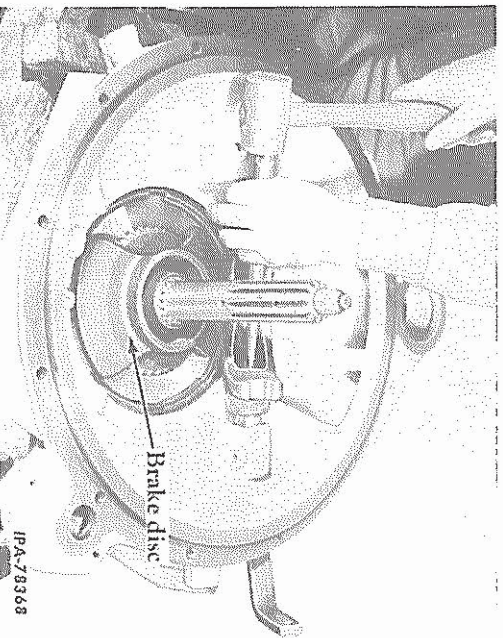

FIG. 9 — Removing the Clutch Release Shaft (RH)
7. Remove the capscrews securing the release fork to the two clutch release shafts. Tap the shafts from the release fork until the Woodruff keys can be removed. Then tap the shafts from the clutch housing and remove the release fork. Lift the clutch brake disc from the shaft (Fig. 9).